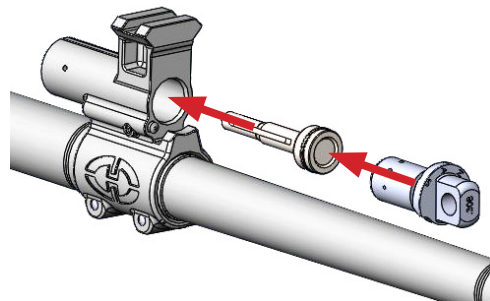

Fig. d-1
1. Install the piston into the gas block, pressing it to the rear-most position. (Fig. d-1)